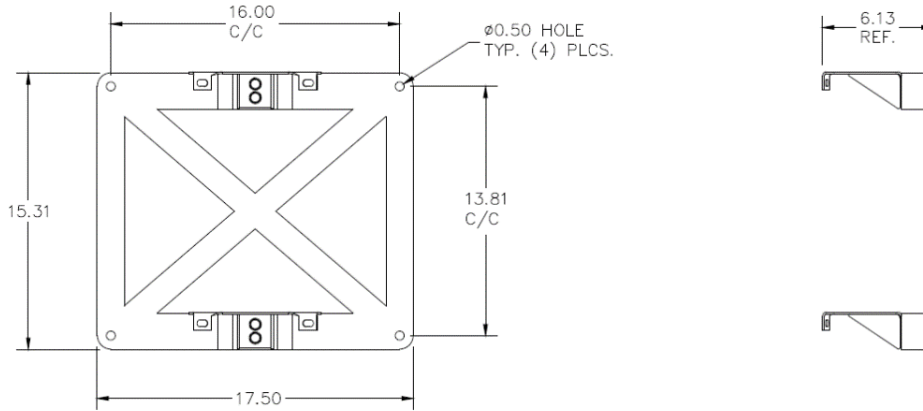

FIG. 1 – Wall Mount Bracket
2. Install wall mount bracket or adjustable floor stand bracket to the side of the unit. See FIGS. 1 & 2 for wall mount bracket and floor stand detail.